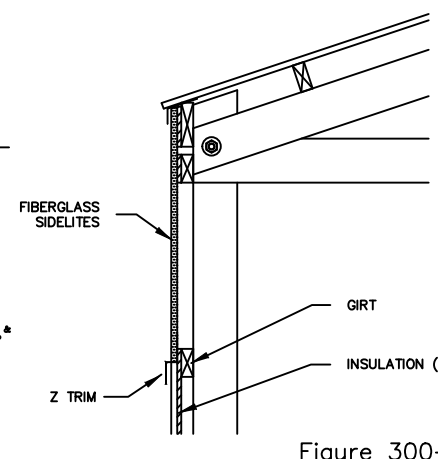

Figure 300-4
11. Polycarbonate sidelights are a contract option. See figure 300-4.